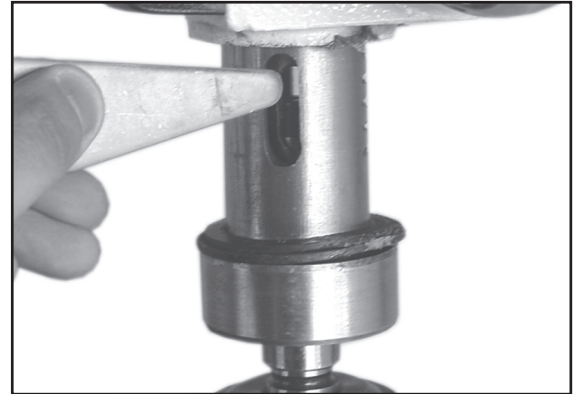

Figure 15
5. Insert the Key-drift provided into the slot. (Fig. 15)